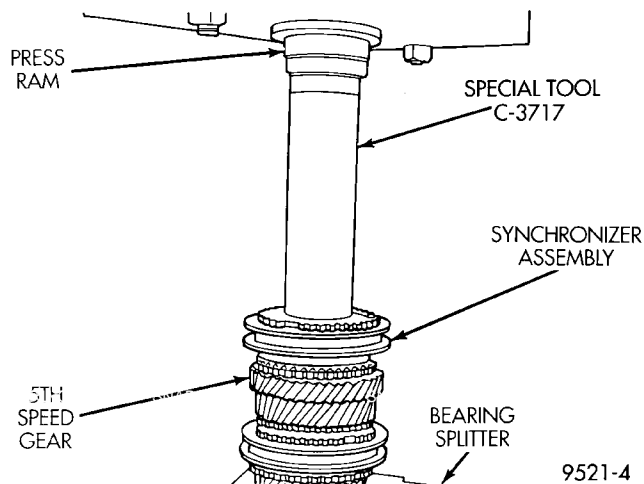

Fig. 95 5th Speed Gear Installation
(11) Using special tool #C-3717, install 5th speed gear and synchronizer (Fig. 95). The 5th gear synchronizer hub has the letter **S** stamped on the top face of the hub. This designates that the hub must be installed with the **S** facing upward.